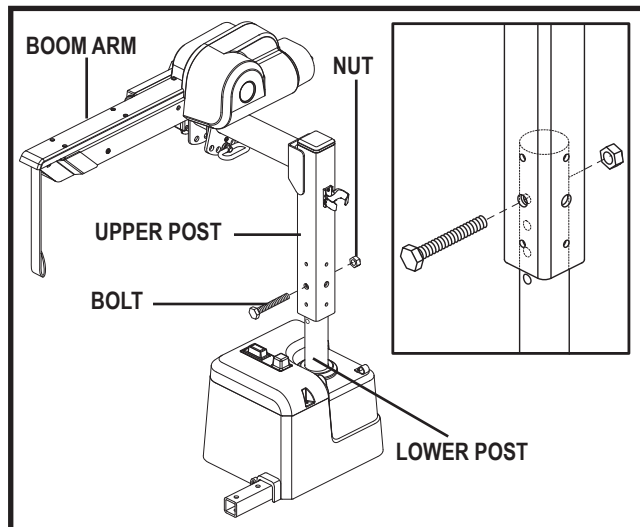

Figure 1. Upper Post Adjustment
The boom arm can be adjusted for your convenience. See figure 1.
1. Remove the nut and bolt from the upper post. See figure 1.